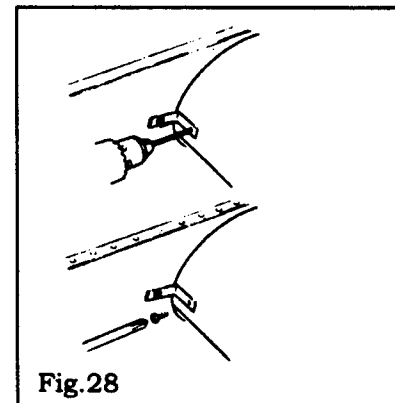

Fig. 28
8.2.2.16 Secure the vent unit to the brackets with two #6 thread cutting screws supplied (As fig. 28).